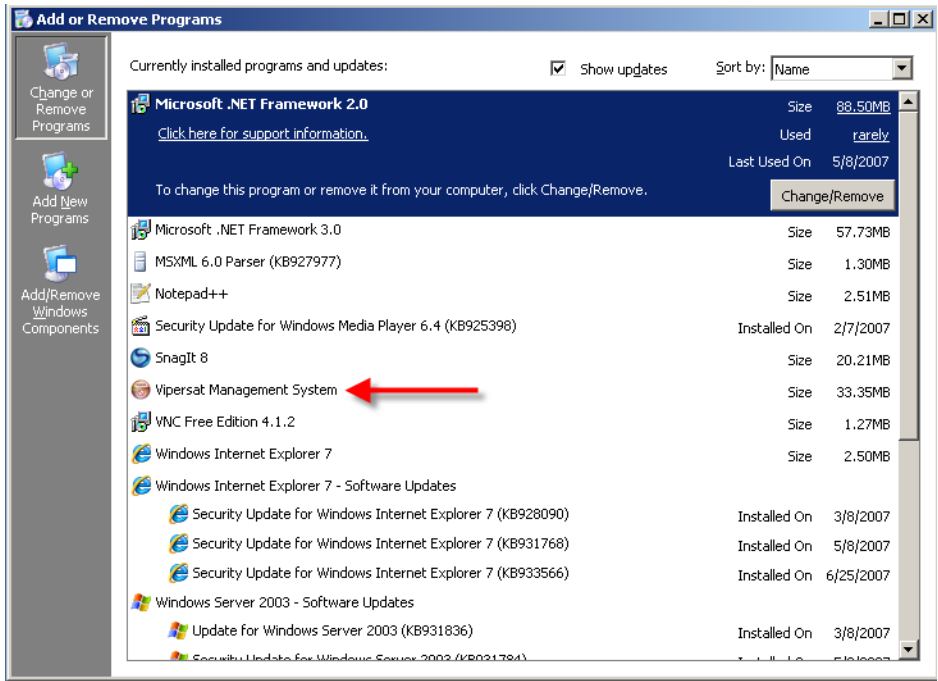

Figure 2-11 VMS, Remove Program
2. Select **Vipersat Management System** and click the **Remove** button (figure 2-11).